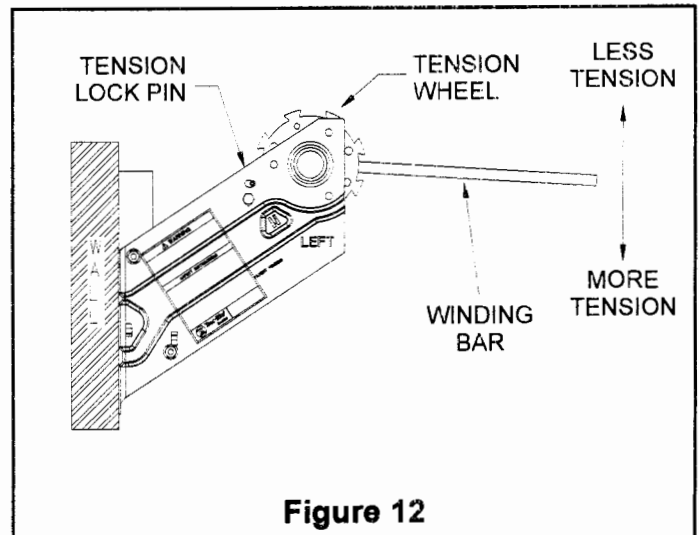

Figure 12
9.2 To add tension, insert winding bar in the rectangular hole in the tension wheel and pull down until ratchet clicks. Move up slightly until ratchet locks in place (See Figure 12). If more tension is needed, move winding bar to the next hole in the tension wheel and repeat as necessary.